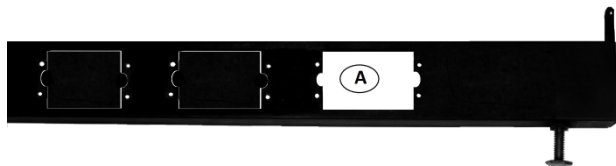

Figure 3 – Knockout A in Subbase
Step 2 — Remove knockout "A" from non-electrical subbase as shown in figure 3.